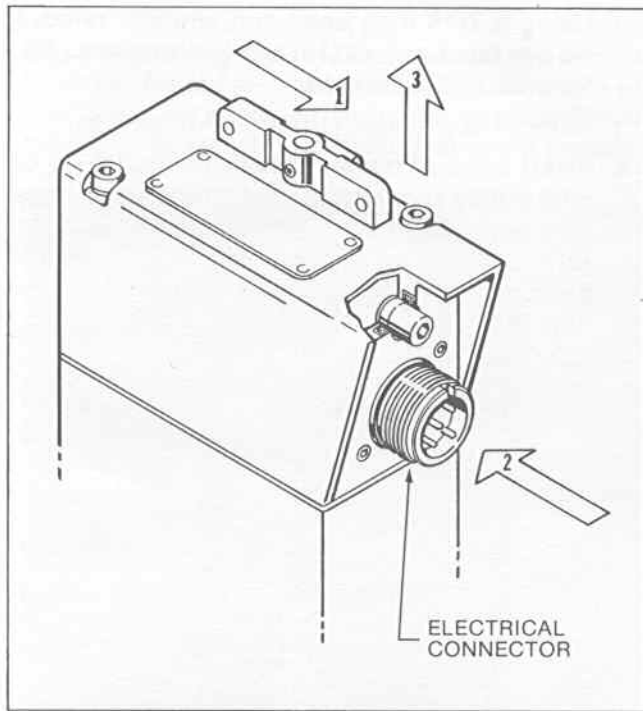

Figure 3. Motor Cap Removal
2. Using a 9/64 inch Allen wrench, remove two socket head cap screws (3) and lockwashers (4).
3. Slide motor cap (5) toward electrical connector end of controller until motor cap bottoms (See Figure 3).
4. CAREFULLY push electrical connector (6) into motor cap (5).